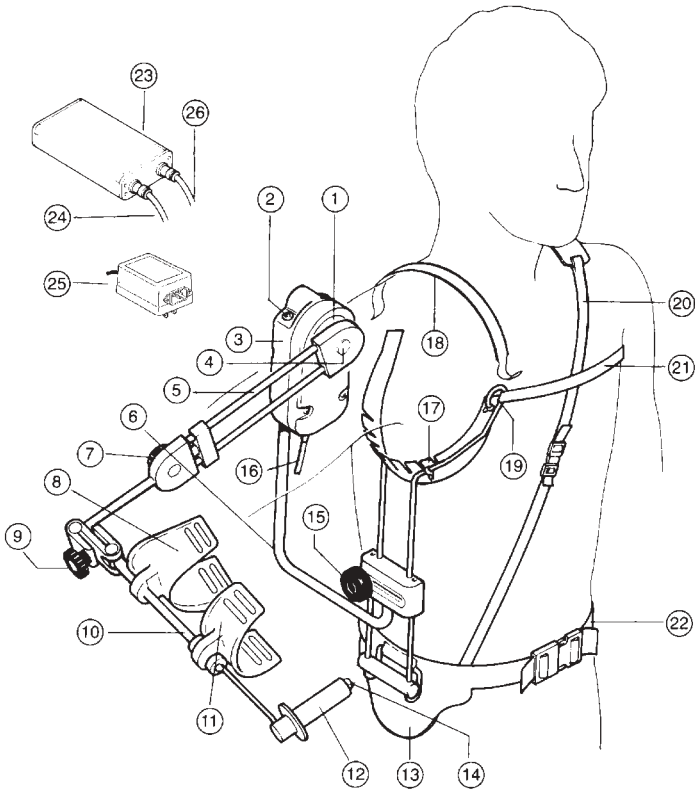

Figure 1
- Remove all of the S3S components from the box, and review the parts illustration (see Figure 1) to identify the key device components.